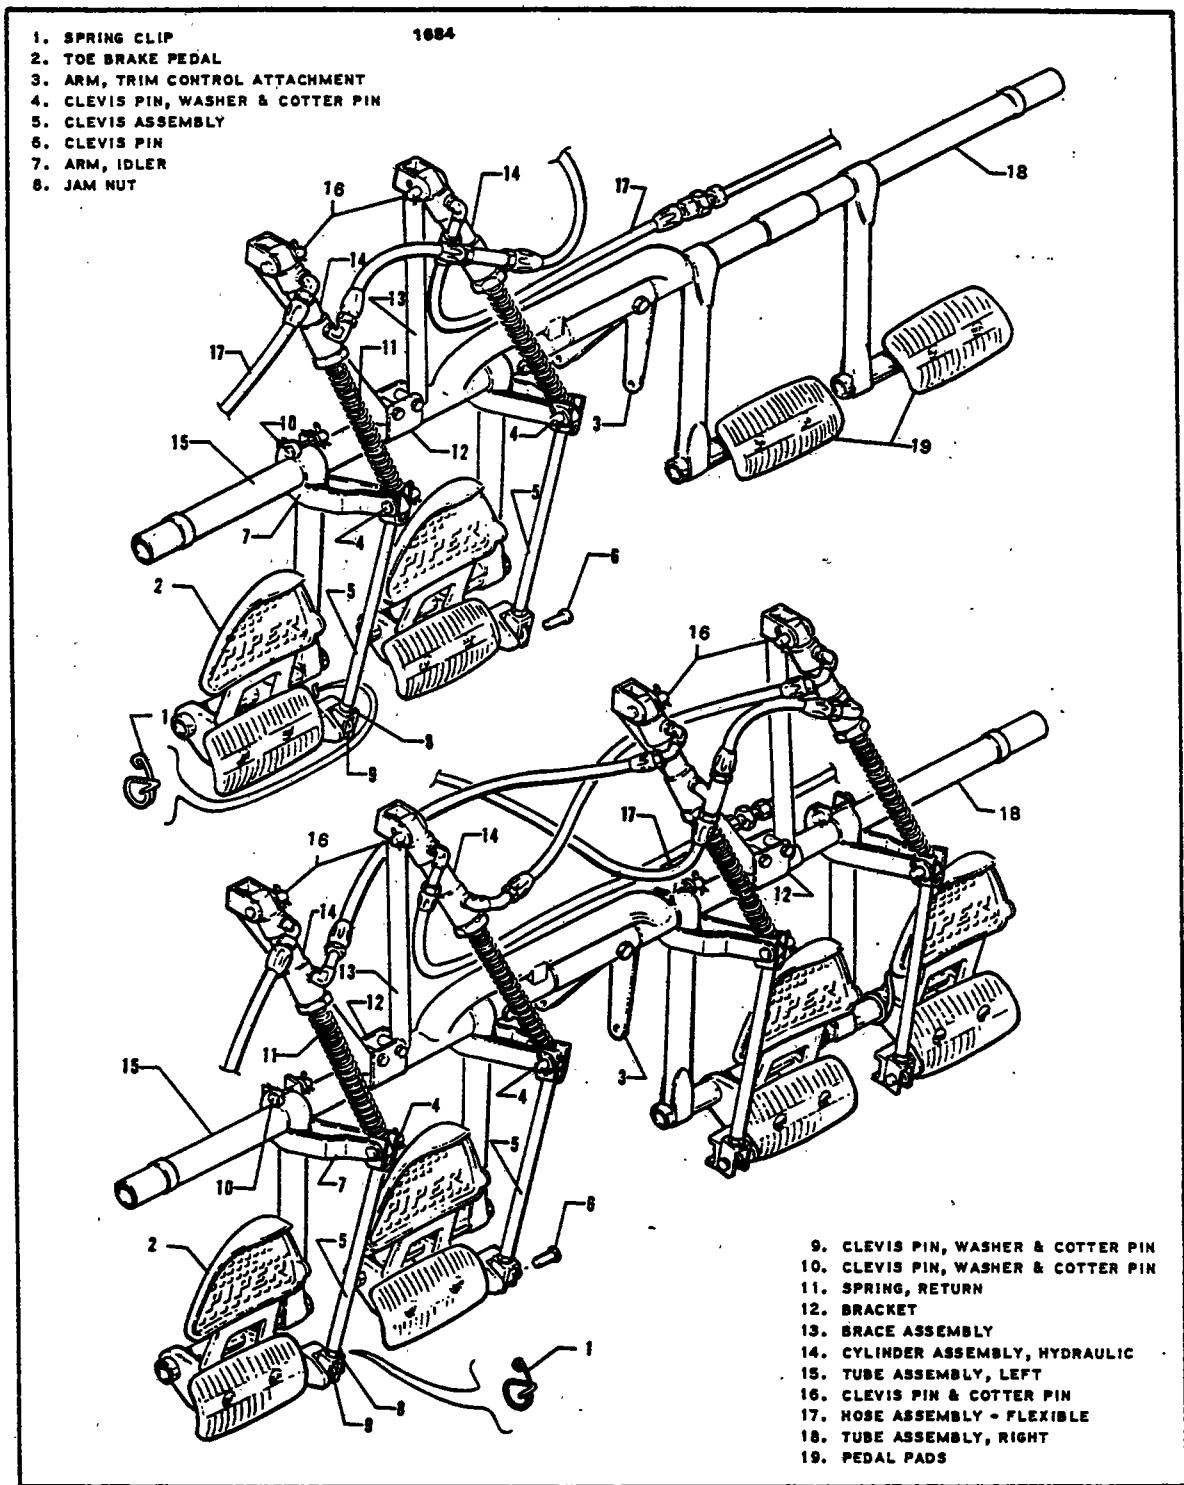
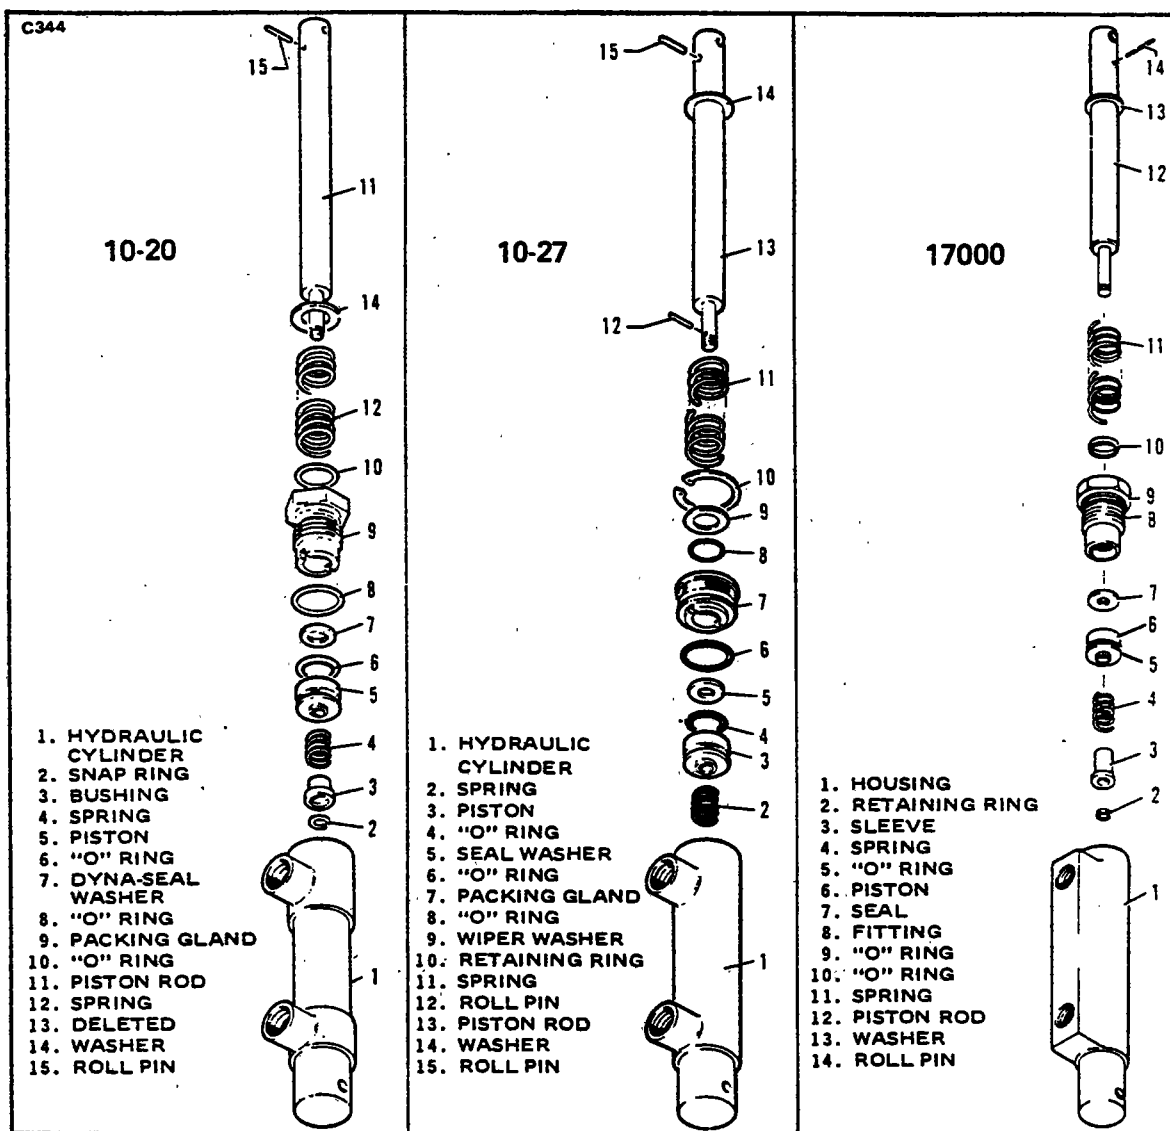
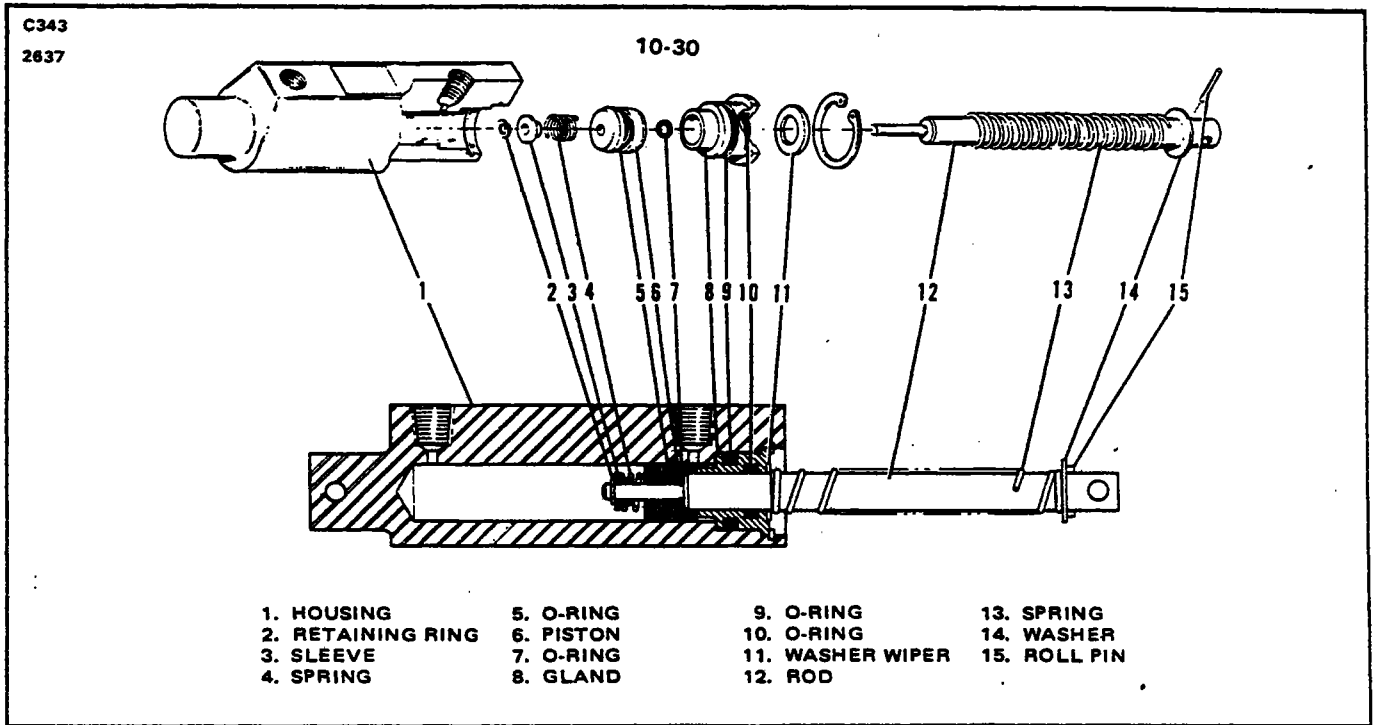
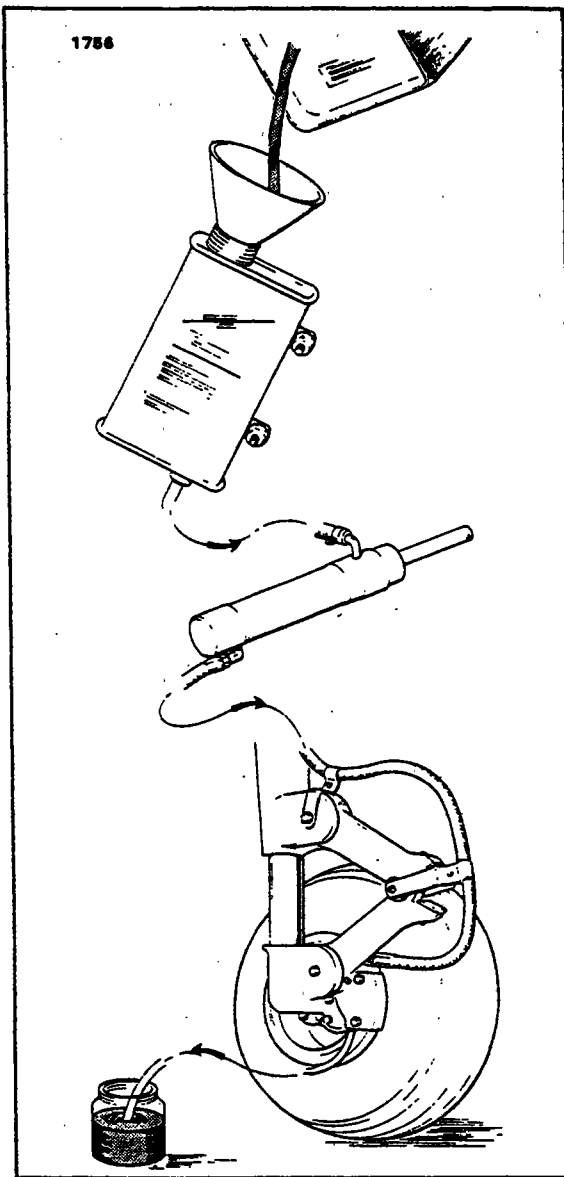

Figure 7-19. Toe Brake Installation
Figure 7-20. Brake Cylinder (Toe Brake)
Figure 7-21. Brake Cylinder (10-30) (Toe Brake)
Figure 7-22. Bleeding Brake (Gravity)
7-47. REMOVAL OF BRAKE CYLINDER. (Refer to Figure 7-19.)
- a. Cleveland cylinder number 10-20. (Refer to Figure 7-20.)
2. To disassemble the cylinder, first remove the piston rod assembly by unscrewing the packing gland (9) from the cylinder.
3. The piston rod assembly may be disassembled by first removing the small snap ring (2) securing the retainer bushing (3) and then removing the bushing, spring (4), piston (5), seal (7), gland (9), and, if desired, the large return spring.
- b. Cleveland cylinder number 10-27. (Refer to Figure 7-20.)
2. To disassemble the cylinder, first remove the piston rod assembly by removing the snap ring (10) from the annular slot in the cylinder housing (1). Draw the piston rod assembly from the cylinder.
3. The piston rod assembly may be disassembled by first removing the roll pin (12) and then the piston assembly (3), seal (5), packing gland (7).
- c. Cleveland cylinder number 10-30. (Refer to Figure 7-21.)
2. To disassemble the cylinder, first remove the piston rod assembly by removing the retaining ring from the annular slot in the cylinder housing (1). Draw the piston rod assembly from the cylinder.
3. The piston rod assembly may be disassembled by first removing the retaining ring (2), sleeve (3), spring (4), and then the piston assembly, O-ring (5), and gland (8), and, if desired, the return spring (13).
- d. Gar-Kenyon cylinder number 17000. (Refer to Figure 7-20.)
2. To disassemble the cylinder, first remove the piston rod assembly by unscrewing the fitting (8) from the cylinder.
3. The piston rod assembly may be disassembled by first removing the retaining ring (2) securing the sleeve (3) and then removing the spring (4), piston (6), seal (7), fitting (8), and, if desired, the large return spring (11).
1. Install new "O" rings on the inside and outside of the packing gland (9) and on the outside of the piston (5).
2. To assemble the piston rod assembly, install on the rod (11), in order, the roll pin (15), return spring retainer washer (14), return spring (12), packing gland (9) with "O" rings, seal (7), piston (5) with "O" ring, spring (4) and retainer bushing (3). Secure these pieces with the small ring (2) on the end of the rod.
3. Insert the piston rod assembly in the cylinder (1) and secure packing (9).
1. Install new "O" rings on the inside and outside of the packing gland (7) and on the outside of the piston (3). (Refer to above note.)
2. To assemble the piston rod assembly, install on the rod (13), in order, the roll pin (15), washer (14), spring (11), washer (9), packing gland (7), seal (5), piston assembly (3) and spring (2).
3. Insert the piston rod assembly in the cylinder (1) and secure with the snap ring (10).
1. Install new O-rings on the inside and outside of the packing gland (7) and on the outside of the piston (3).
2. To assemble the piston rod assembly, install on the rod (12), in order, the roll pin (14), washer (13), spring (11), washer (9), packing gland (7) with O-rings, seal (5), piston assembly (3) with O-ring, spring (2), and roll pin (15).
3. Insert the piston rod assembly in the cylinder (1) and secure with the retaining ring (10).
1. Install new O-rings on the inside and outside of the fitting (8) and on the outside of the piston (6). (Refer to above note.)
2. To assemble the piston rod assembly, install on the rod (12), in order, the roll pin (14), return spring retainer washer (13), return spring (11), fitting (8) with O-rings, seal (7), piston (6) with O-ring, spring (4) and sleeve (3). Secure these pieces with the retaining ring (2) on the end of the rod.
3. Insert the piston rod assembly in the cylinder (1) and secure fitting (8).
**7-51. INSTALLATION OF BRAKE CYLINDER. (Refer to Figure 7-19.)**
- a. Position the cylinder (14) at its mounting points and attach with clevis pins. Safety the pins with cotter pins.
**7-53. BRAKE BLEEDING PROCEDURE (Gravity). (Refer to Figure 7-22.)**